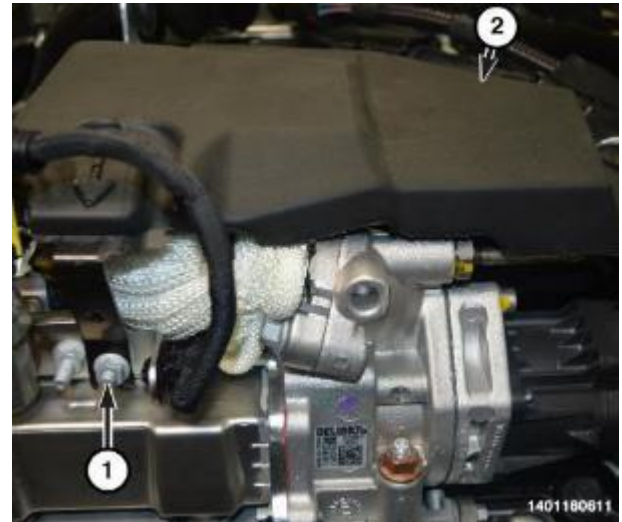

Figure 15 – Right Fuel Rail Cover
25. Loosen the nut (1) and remove the right fuel rail cover (2) (Figure 15).